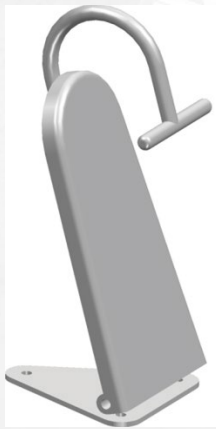

Figure 1 Throttle Pedal Toe Hook
- Toe hook must enable the driver to pull back on the pedal with foot in the event of a stuck throttle. See diagram on FIG 1.
- Each vehicle must have a foot throttle incorporating two (2) positive action return springs attached directly to the carburetor/throttle body arm and must register a minimum pull of two (2) pounds each. A positive stop or over-ride prevention system must be used to keep linkage from passing over center and sticking in an open position.